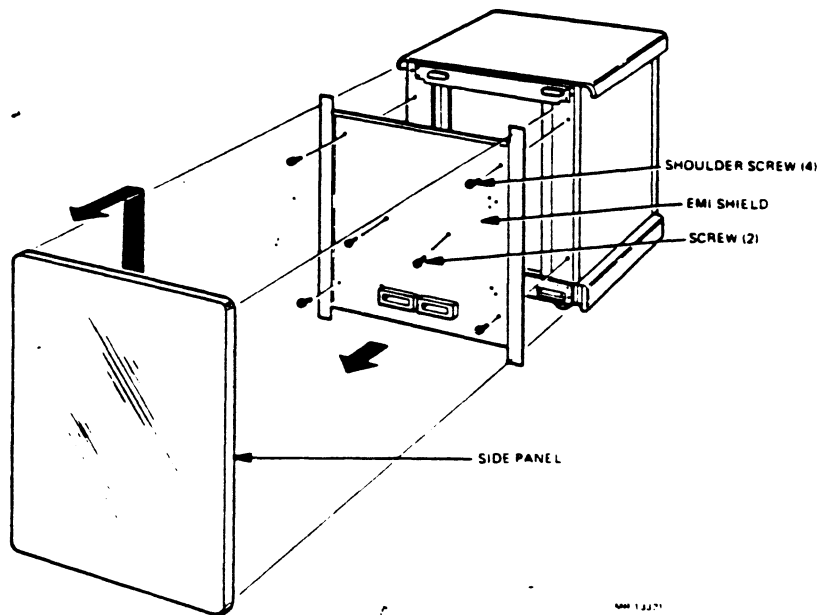

FIGURE 2-28 SIDE PANEL REMOVAL
9. Remove the cabinet right side panel by lifting it straight up from both sides. See Figure 2-28.